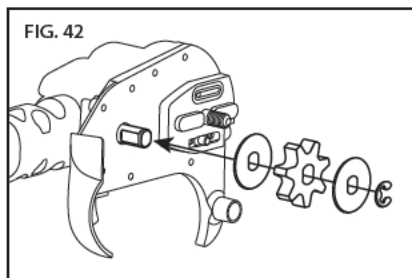

FIG. 42
- Insert the new drive sprocket with a washer on each side, and install the new e-clip (Fig. 42).